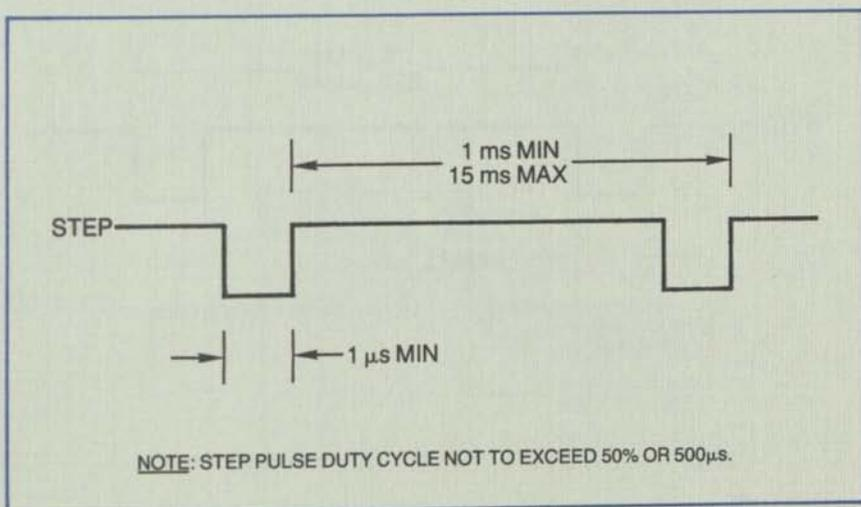

Figure 13. Slow Seek Timing
- **Slow seek.** A STEP pulse rate of 1 to 15 milliseconds places the drive into the slow seek mode, wherein head movements are in discrete 3 millisecond steps. In this mode, the trailing edge of each step pulse causes the heads to step in or out one cylinder. Figure 13 shows slow seek timing.